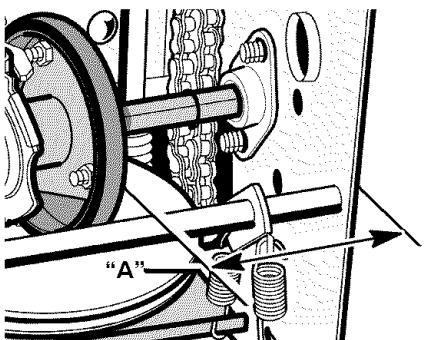

Figure 39
7. Note the position of the **friction wheel** (see Figure 39). The correct distance "**A**" from the right side of the **friction wheel** to the outside of the motorbox is as follows:
3. Move the **friction wheel** to the correct position (see Figure 39).